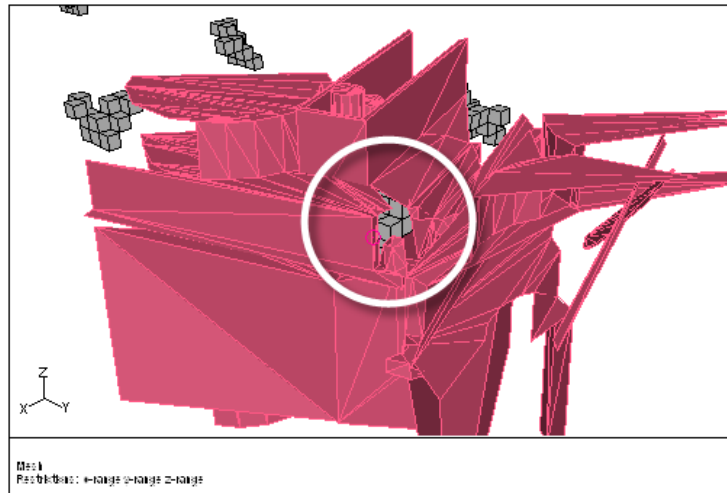

Figure 7.20: Bounds Set Around a Potential Hole
- (f) Click Draw in the Fix Holes group box in the Region tab of the Boundary Wrapper panel (Figure 7.20).